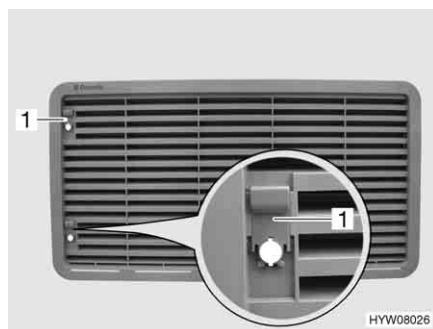

Fig. 135 Refrigerator ventilation grill (with sliding trap)
- Push sliding trap (Fig. 135,1) upward.